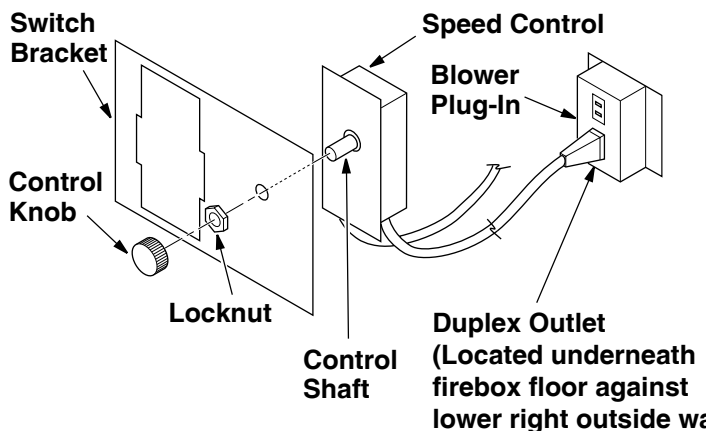
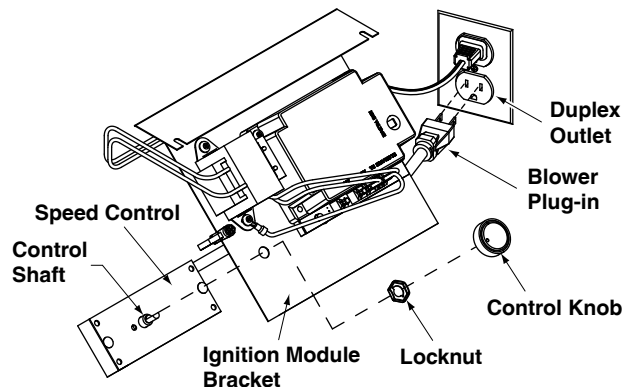

Figure 34 - Attaching Speed Control to Fireplace
Figure 35 - Attaching Speed Control to Fireplace
5. Mount speed control box by placing the plastic control shaft through the opening in switch bracket (see **Figure 34**) or the igniton module bracket (see **Figure 35**).
- Mount the speed control box by placing the plastic control shaft through the opening in switch bracket (see **Figure 34**, page 18) or the ignition module bracket (see **Figure 35**, page 18)
- While supporting speed control, secure control shaft with lock nut by pushing and turning lock nut with pliers clockwise until it is tight against mounting plate. Place control knob provided on shaft (see **Figure 34 or 35**, page 18).